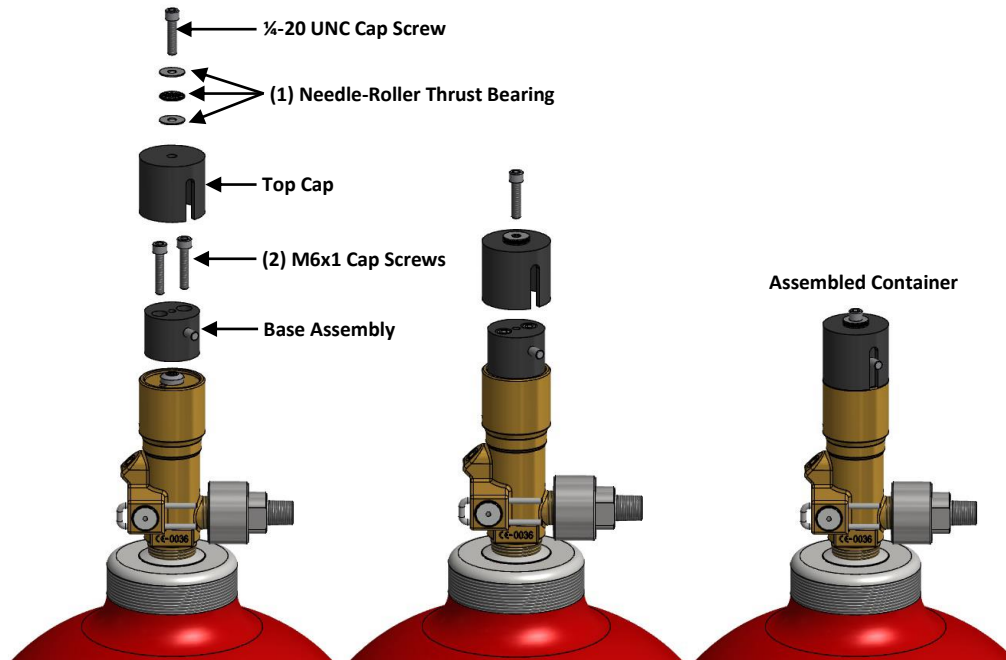

Figure 4.1-2 Valve-Filling Components
Step 3: Assemble the valve filling tool to the spring washer on top of the valve (see Figure 4.1-2). Ensure both screws on the bottom half of the filling tool sit flat on top of the valve body. Secure the top cap onto the base assembly with the 1/4-20 UNC cap screw. Ensure the base assembly is fully engaged, with the cap screw head resting firmly against the top thrust washer and the bottom thrust washer resting firmly against the top cap.